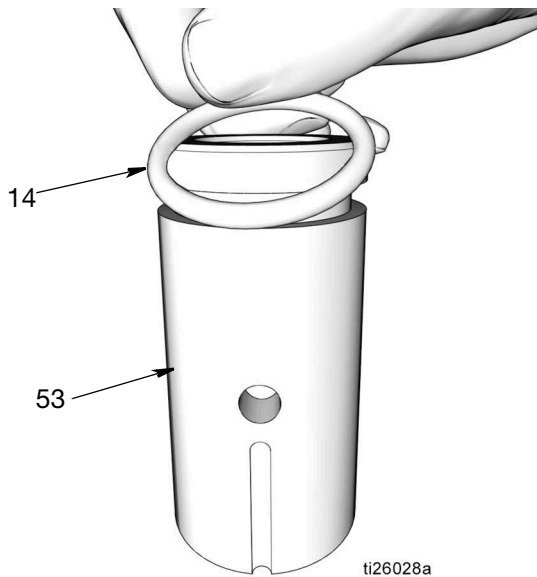

FIG. 40
- a. Use a clean cloth to wipe down the pump element sleeve (53) and remove any dirt or contaminants. Inspect surface for any scratches or damage.
- b. Apply a thin layer of grease to o-ring (14). Install o-ring around the pump element sleeve (53) (FIG. 40).